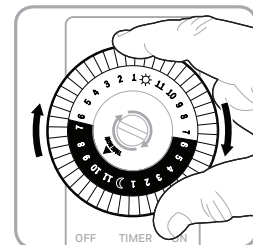

Figure 4
3. Rotate the timer's dial clockwise until the pointer on the face of the dial points to the current time (See Figure 4). Nighttime hours (from 6:30PM to 6:30AM) are highlighted with a grey background.